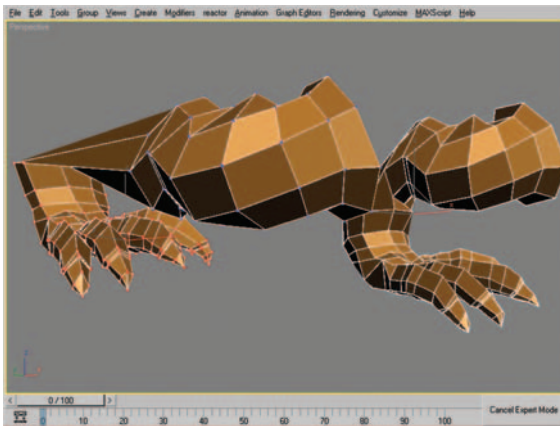

Figure 9.81 Foot before and after moving vertices.
44. Using the Move tool at the Vertex subobject level, move the foot forward to create a more natural looking result (Figure 9.81).